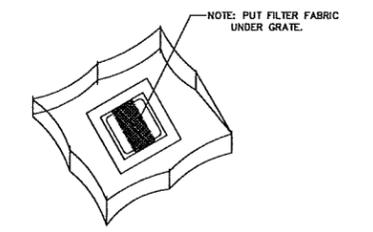

FIGURE 11
- Where required to prevent erosion from sheet flow across bare ground from entering a lake or swale, a temporary sediment sump shall be constructed, as shown in Figure 11. The temporary sediment sump shall remain in place until vegetation is established on the ground adjoining to the sump.